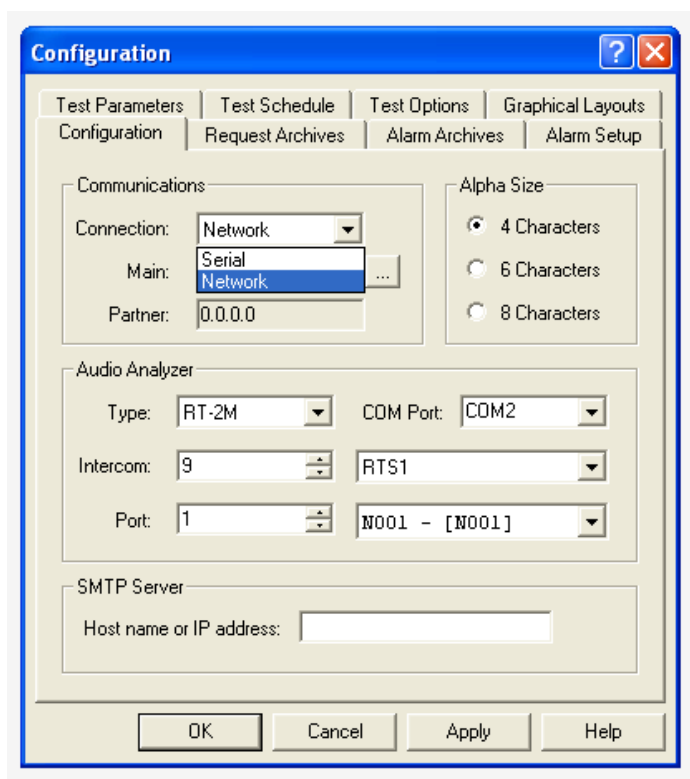

FIGURE 1. Configuration Window
The **Configuration** window, shown in Figure 1, houses the majority of configuration options for the Trunk Supervisor. The tabs in the configuration window are dynamic, meaning if an Audio Analyzer is selected on the Configuration page, three (3) additional tabs appear in the Configuration window (Test Parameters, Test Schedule, and Test Options tabs).
After the Trunk Supervisor software is finished installing, the Configuration page, shown in Figure 1, is normally the first window used to establish network connections to the primary and optional secondary Trunkmaster, the audio analyzer, SMTP Server, as well as the number of alphas displayed.